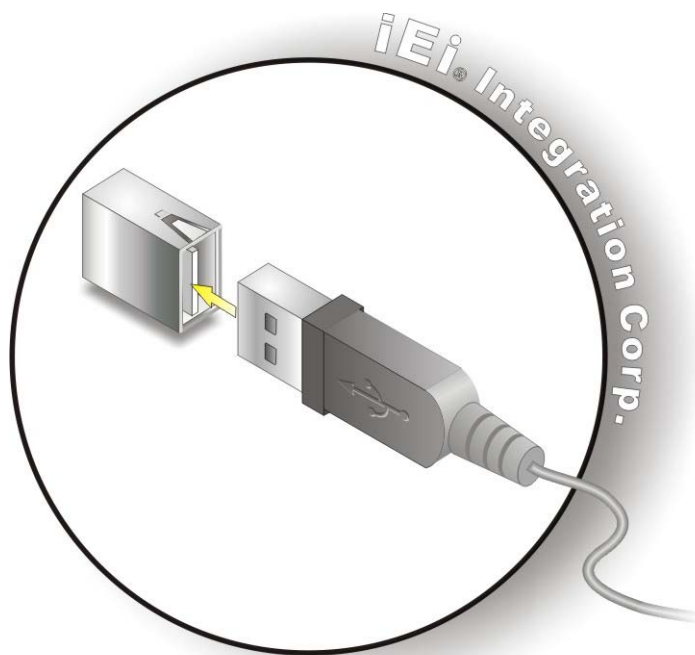

Figure 4-16: USB Device Connection
**Step 2:** **Align the connectors.** Align the USB device connector with the connector on the PCIE-H610. See **Figure 4-16**.